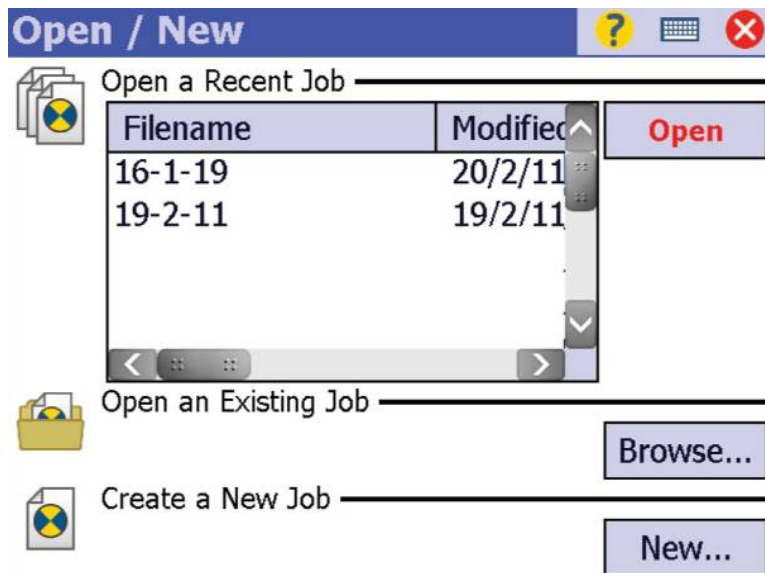

Fig. 3 Open/new screenshot
- 2) Tap the "New..." button to start a new survey (Fig. 3).